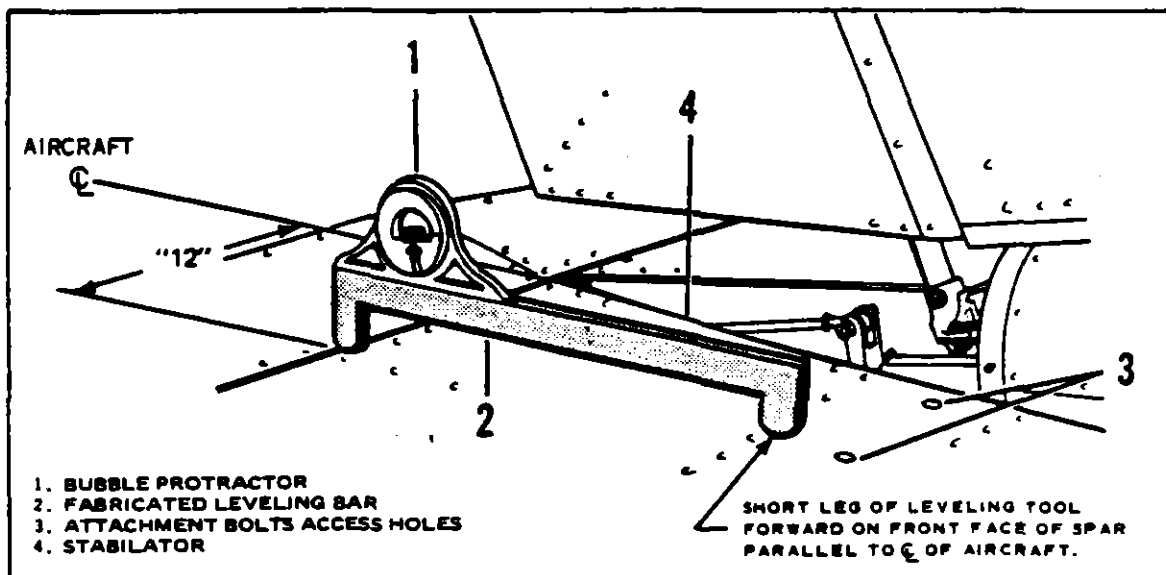

Figure 5-6. Stabilator Rigging Tool
1. Check the travel by placing a rigging tool on the upper surface of the stabilator as shown in Figure 5-6. (This tool may be fabricated from dimensions given in Figure 5-19.)